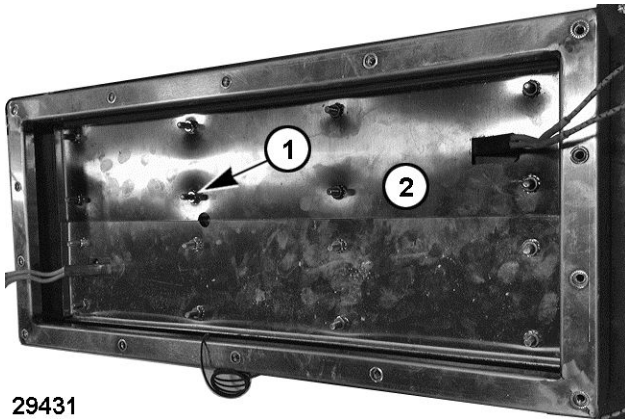

Fig. 47
8. Remove 16 mounting nuts (1, Fig. 47) securing heating element retainer (2, Fig. 47) to platen.